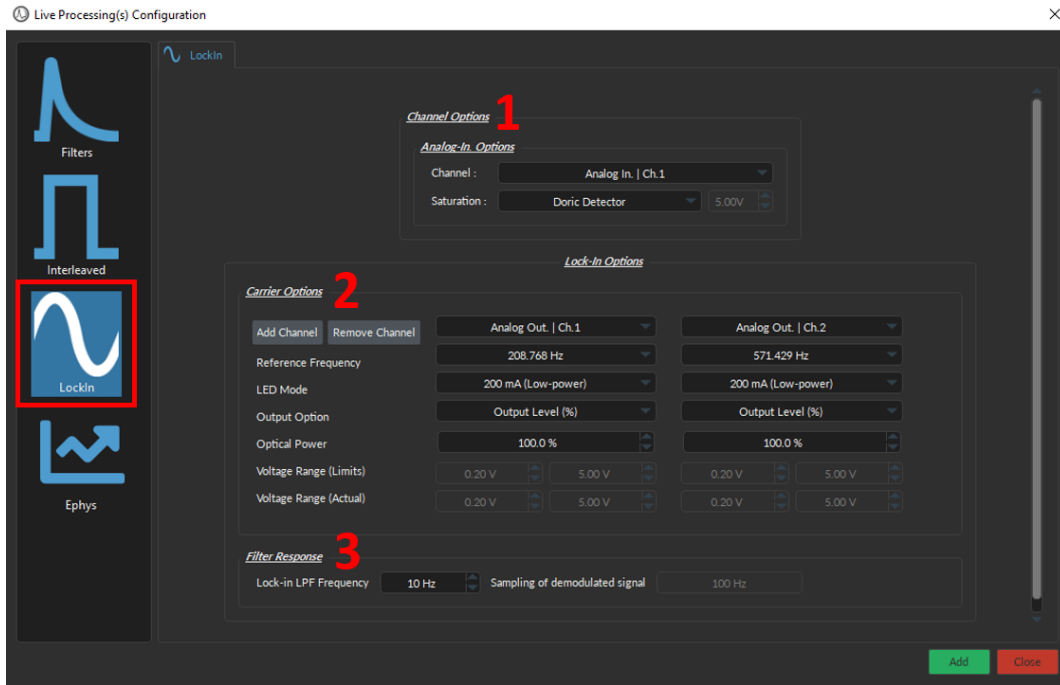

Figure 16.78: Live Processing, LockIn
To create a **LockIn** preset configuration, specify the following parameters (Fig. 16.78):
1. The **Channel Options** (Fig. 16.78, 1) specifies the Analog Input-related information required for the **LockIn** present configuration, and includes the following parameters:
2. The **Carrier Options** (Fig. 16.78, 2) specifies the **Analog Output** dependencies required for the **Lock-In** preset configuration, and includes the following parameters:
3. The **Filter Response** (Fig. 16.78, 3) contains the following parameters: